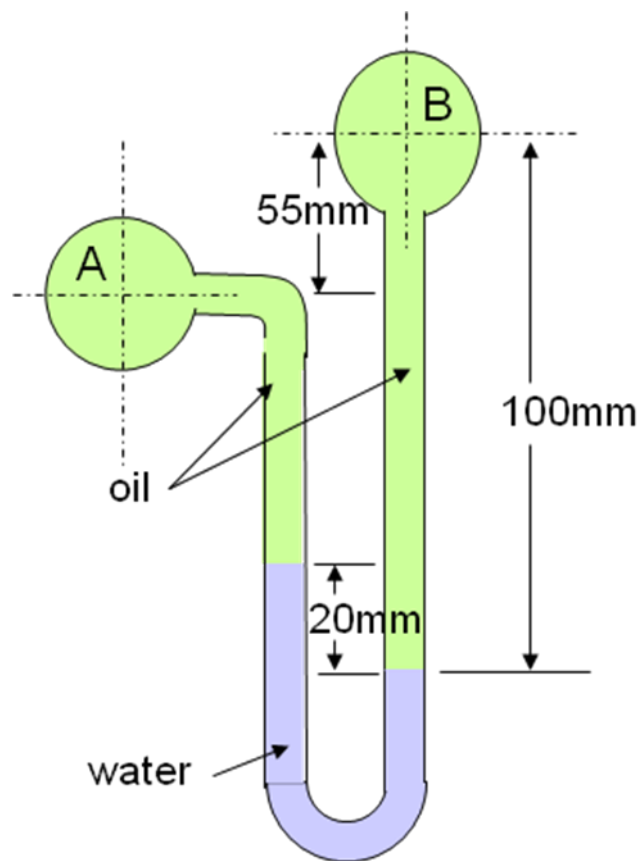

Figure Q3: Differential Manometer
a) Refer figure Q3, shown the manometer of oil and water. Determine the pressure difference between point A and B if the specific gravity of oil is 0.85